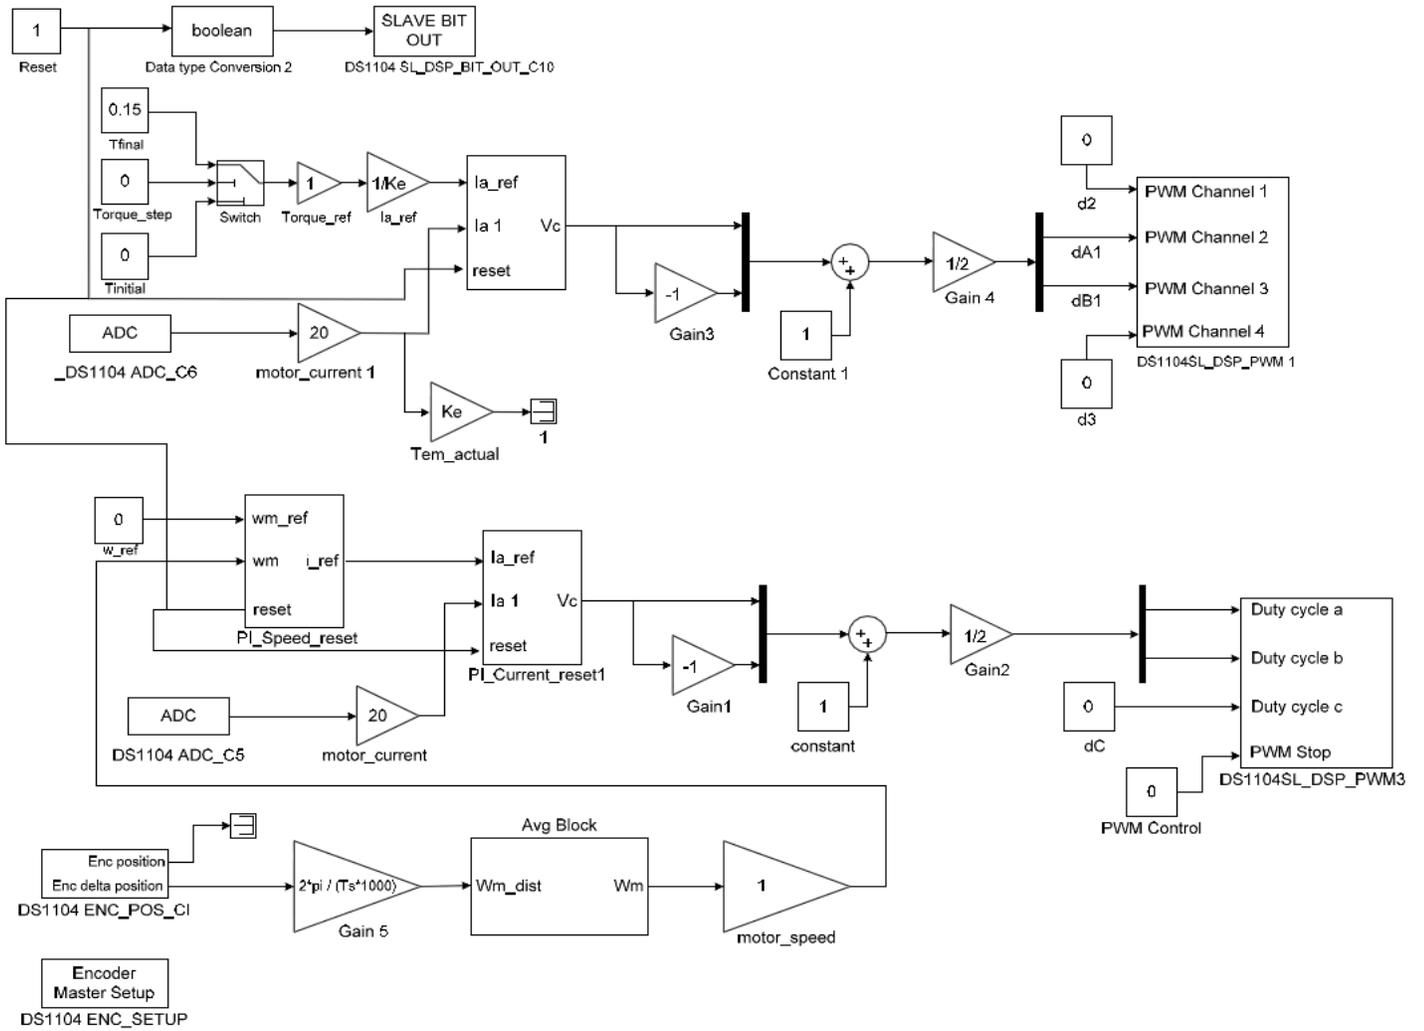

Figure 6.8: Simulink model file for speed controlled DC motor with torque controlled load.
2. Open the file '**torque_control_w_control.mdl**'. Your model should look like Fig.6.8. In this model, inverter 1 controls the motor with speed control and inverter 2 controls the second motor (load) with torque control. Note that these motors are identical. Assign the values to all the PI controllers. (run the m file which contains all values, the values of K_p and K_i are obtained from the previous experiment).